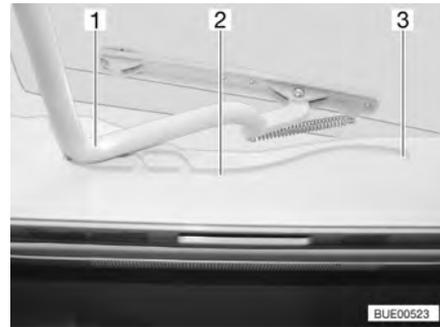

Fig. 60 Heki skylight, guide
- Pull the bar (Fig. 60,1) in the guides (Fig. 60,2) to the rearmost position (Fig. 60,3).
- Use both hands to push the bar (Fig. 60,1) slightly upwards.
- Pull the bar in the guides (Fig. 60,2) to the desired position.